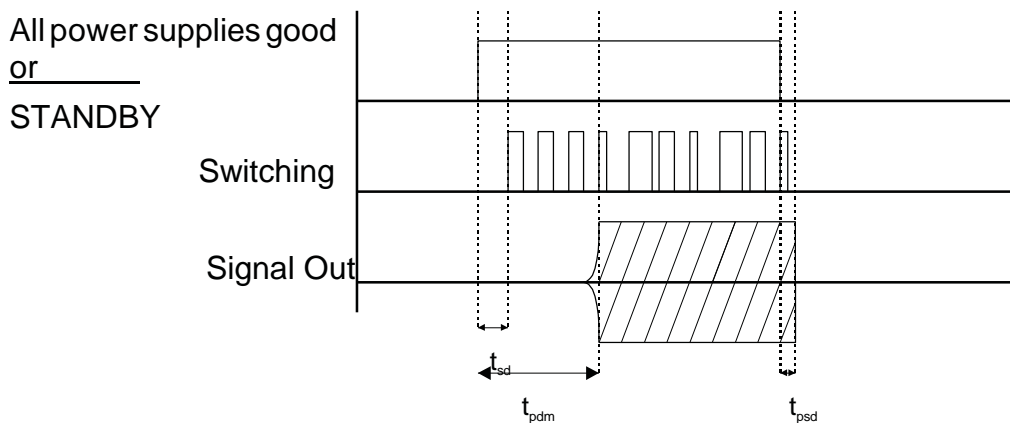

Figure 13: Supply start-up and shut down timing definitions.
3) For details see Figure 13 and 14.